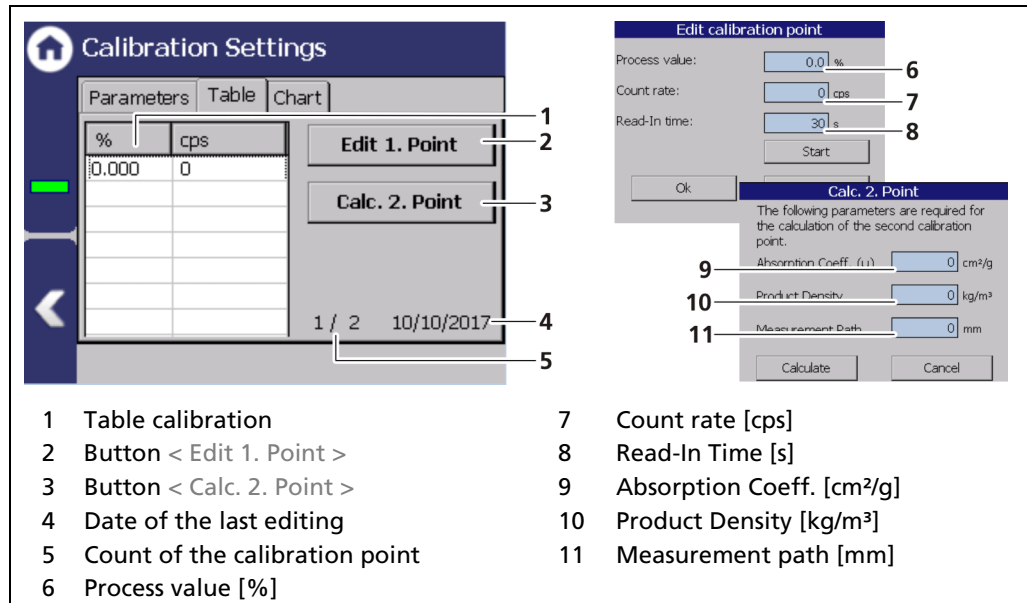

Fig. 81 Calibration Parameters (Table 1 Point Exp. calibration type)
- Click on the button < Edit 1. Point > (Fig. 81, item 2).
- The window "Edit calibration point" (Fig. 81, item 6-8) opens.
- Click on < Calc. 2. Point > (Fig. 81, item 3).
- Enter the absorption coefficient of the product (Fig. 81, item 9). Enter it with a negative prefix.
- Enter the product density (Fig. 81, item 10).
- Enter the measurement path (Fig. 81, item 11).